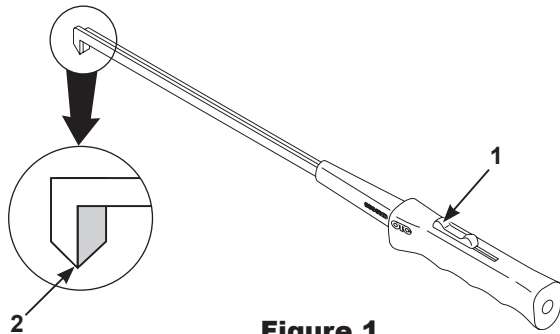

Figure 1
1. Push handle switch(1) forward to slide teeth together(2). See Figure 1.
3. **Measuring the Outer Brake Pad (Figures 1 and 3)**
- c. Slide handle switch back until a tooth(6) is against the metal backing plate of the brake pad(7).
- d. Insert 6596HD further in through spoke hole until the furthest tooth(5) rests against the rotor(9).
- e. Slide the handle switch back further, to once again set the closest tooth(6) against the metal backing plate of the brake pad(7), obtaining the final measurement.
4. **Measuring the Inner Brake Pad (Figures 1 and 4)**
- d. Slide handle switch back until a tooth(11) is against the rotor(14).
- e. Insert 6596HD further through spoke hole until the furthest tooth(10) rests against the metal backing plate(12) of the brake pad.
- f. Slide the handle switch back further, to once again set the closest tooth(11) against the rotor(14), obtaining the final measurement.